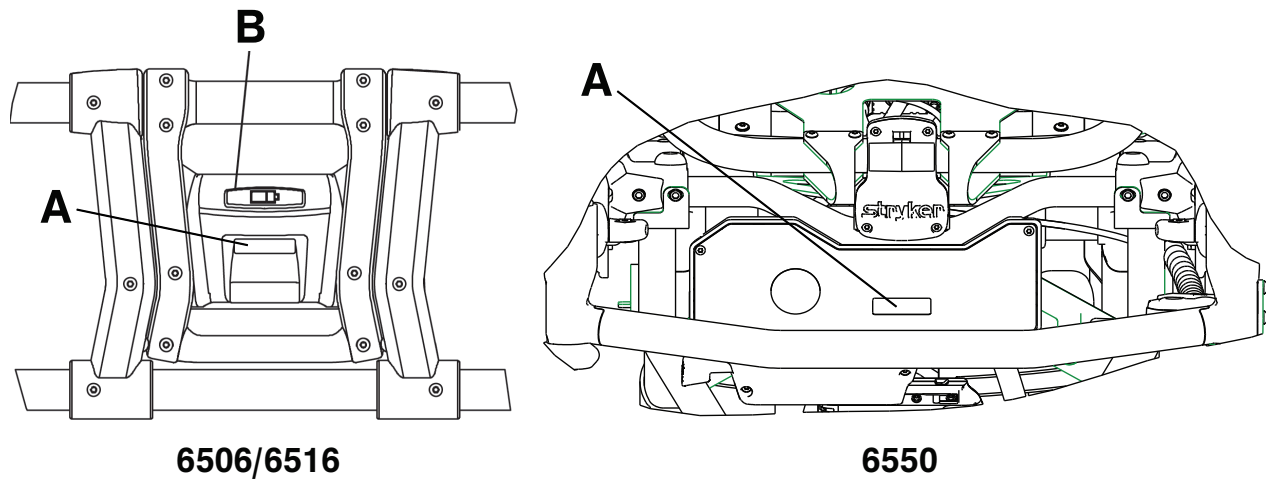

Figure 6 – Checking the hour meter (A), error display (A), and battery status (B)
Use the hour meter (A) (Figure 6) to determine the frequency of preventive maintenance. Use the error display (A) for troubleshooting. The error display overrides the hour meter display when an error occurs.